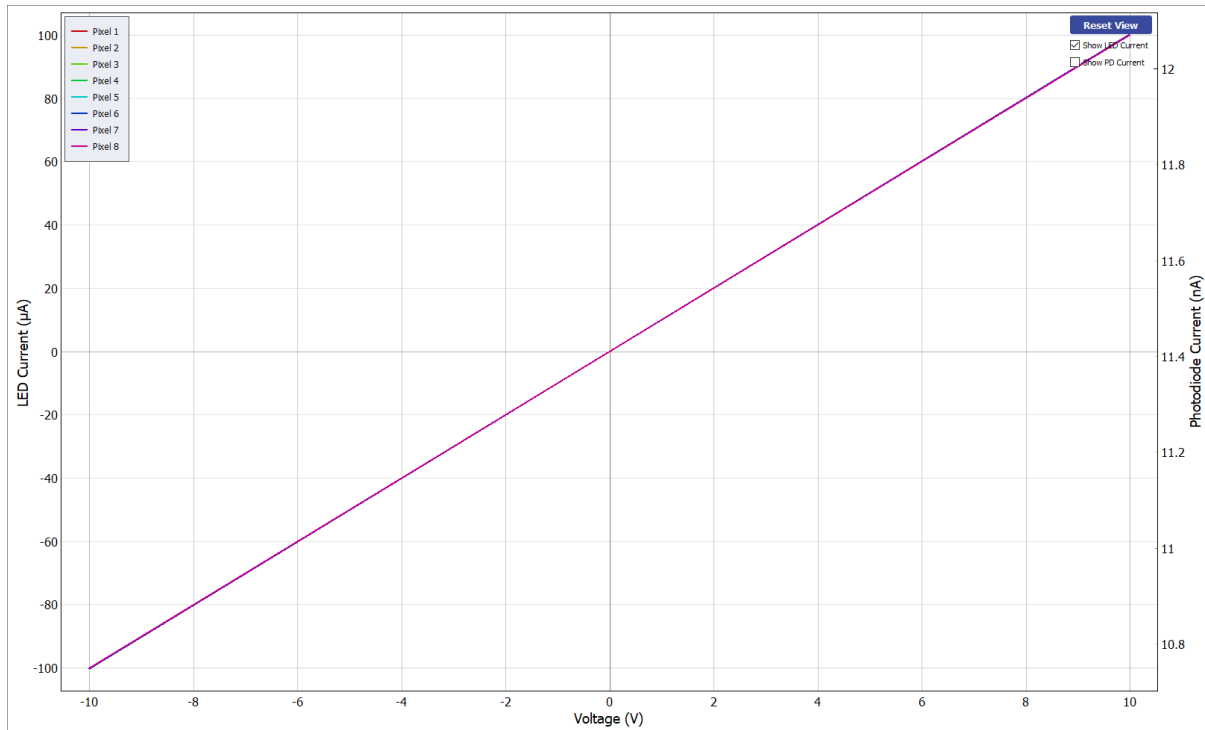

Figure 10.3. Example measurement of resistor test device using the 200 µA current range.
6. The system should measure straight line resistor responses from -100 μA to 100 μA (or -20 μA to 20 μA for the 20 μA current range) as shown in **Figure 10.3**.